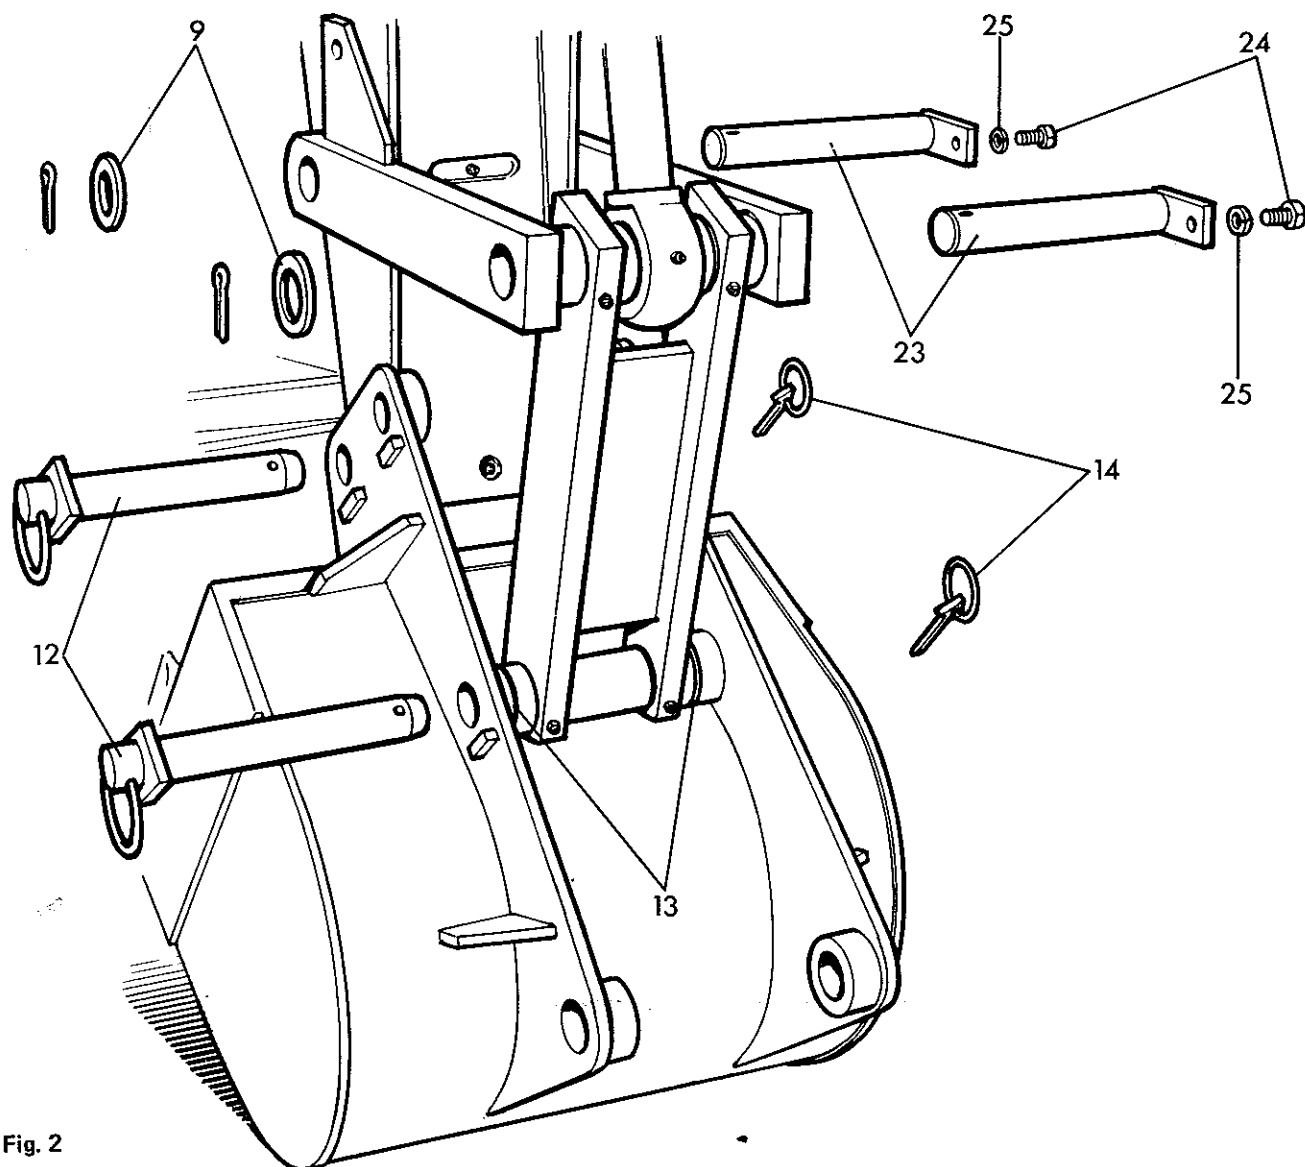

Fig. 2
6. **Tipping link. Bucket end. Disconnect.** (fig. 2)
12. **Tipping levers and Tipping link. Remove.** (fig. 2)